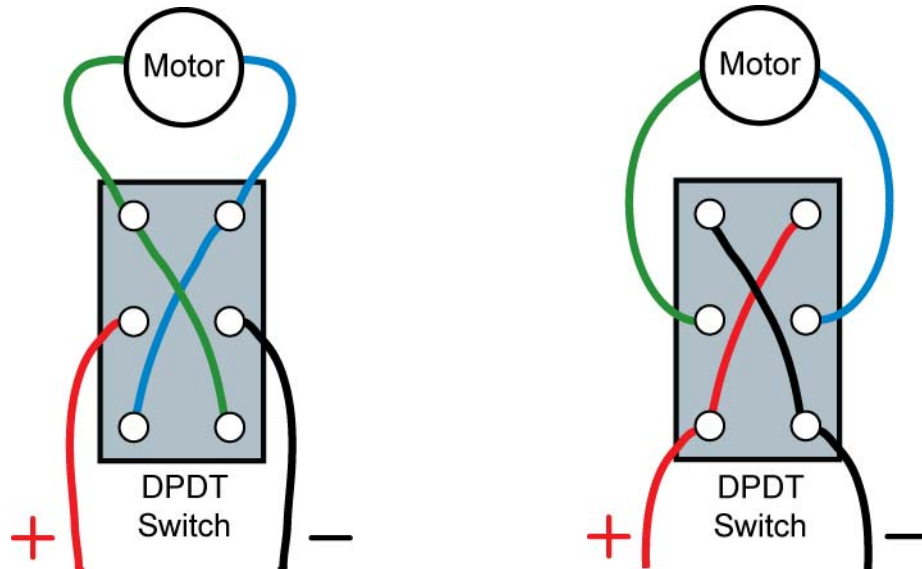

Figure 9: Two Methods to Wire a DPDT Switch to Reverse the Polarity to a DC Motor
- In Lesson 19, we learned that there were two different ways to wire a DPDT switch in order to reverse the polarity of a dc motor; both techniques will work. See Figure 9.